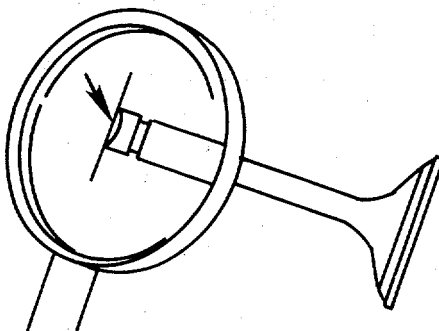

FIGURE 4-14. Checking Valve Stem Flatness.
- d. Check valve stem tip for flatness as shown in FIGURE 4-14.